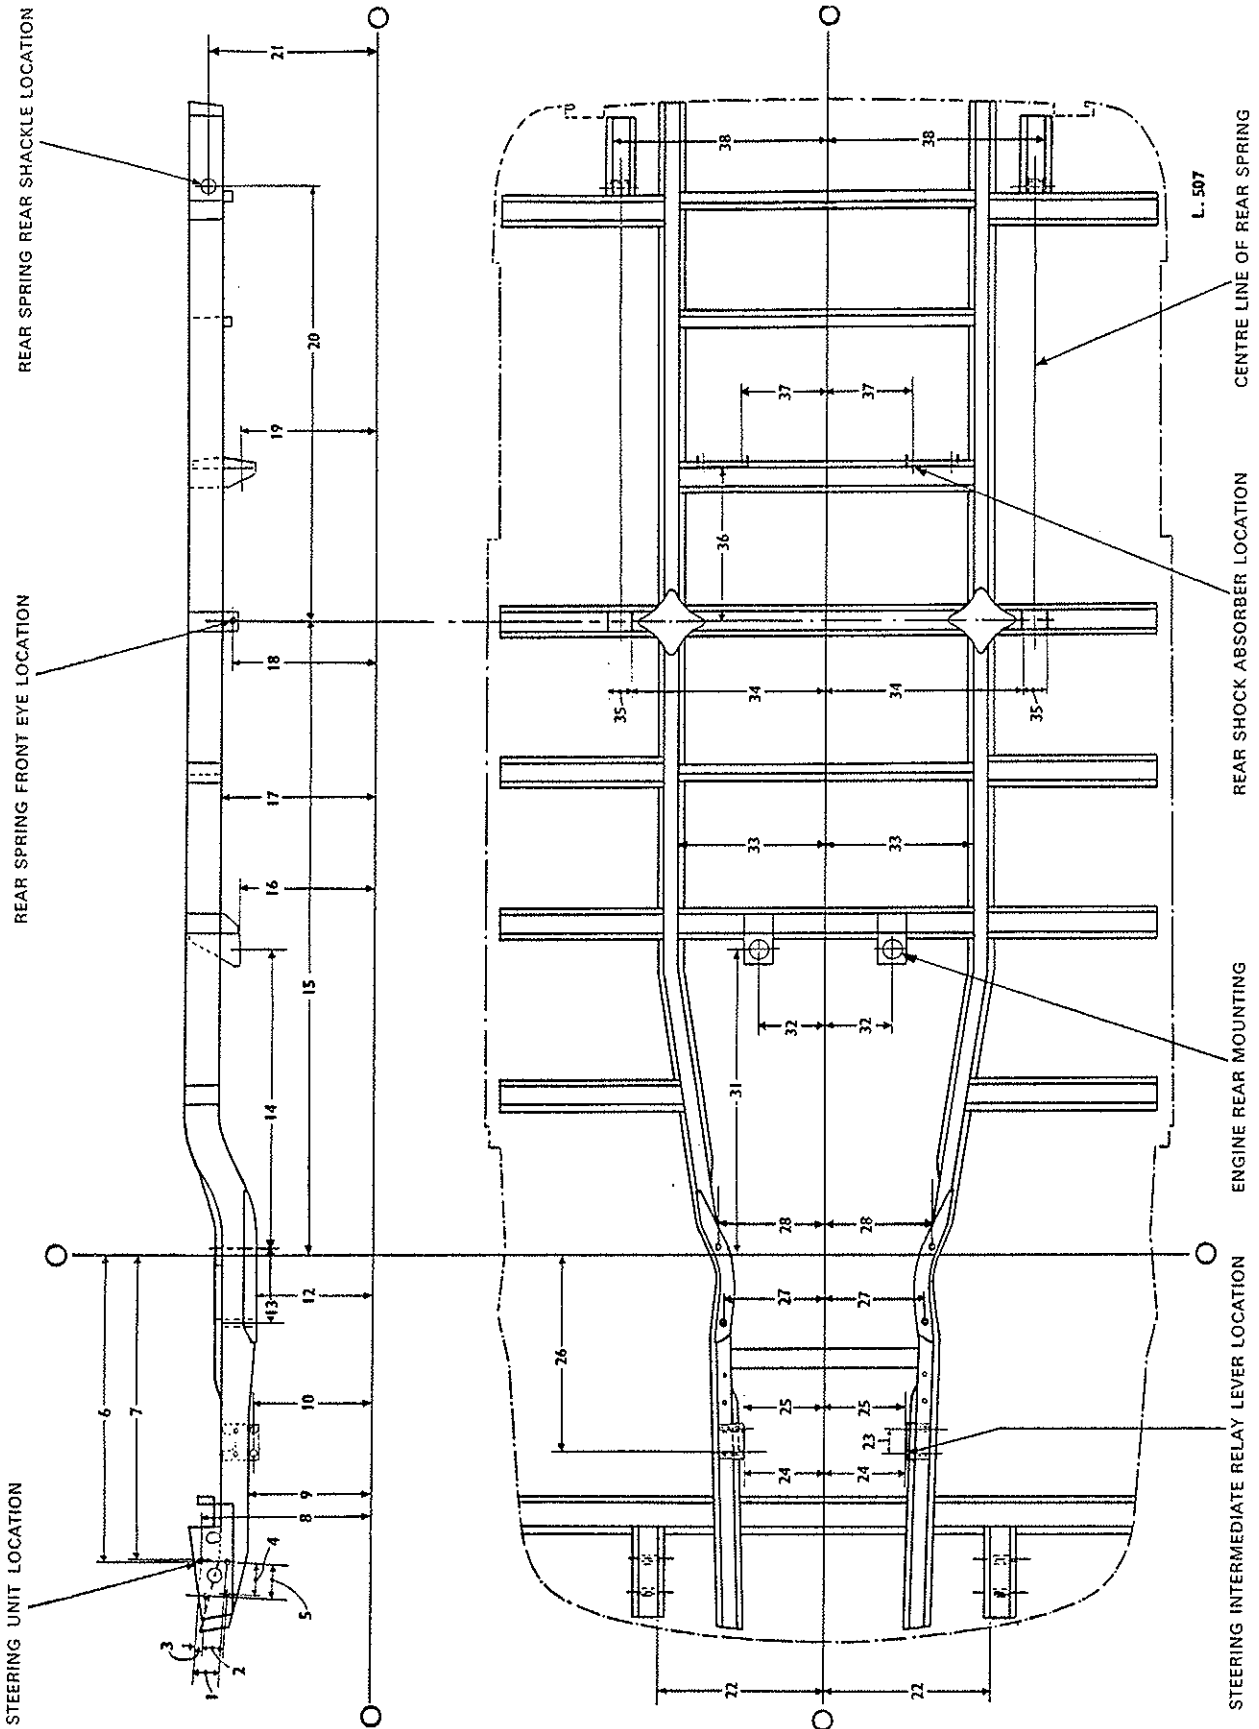

Fig. H.3. Body underframe dimensions—See opposite page for key
Reference should be made to the dimensions given in Fig. H.3 when checking and alignment of the underframe which has sustained accidental damage.
**KEY TO FIG. H.3**